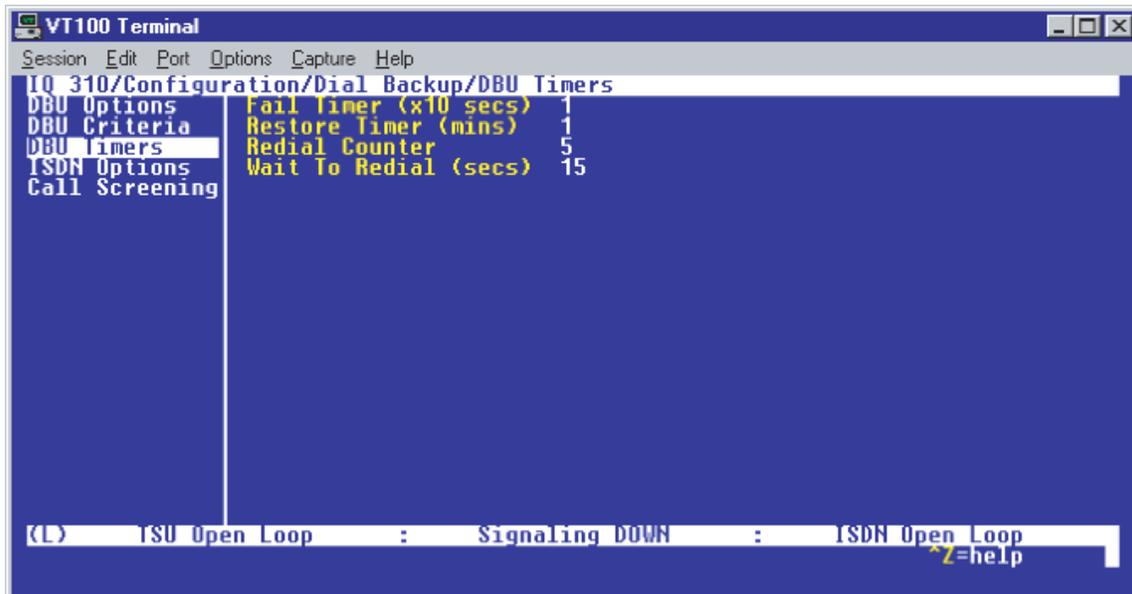
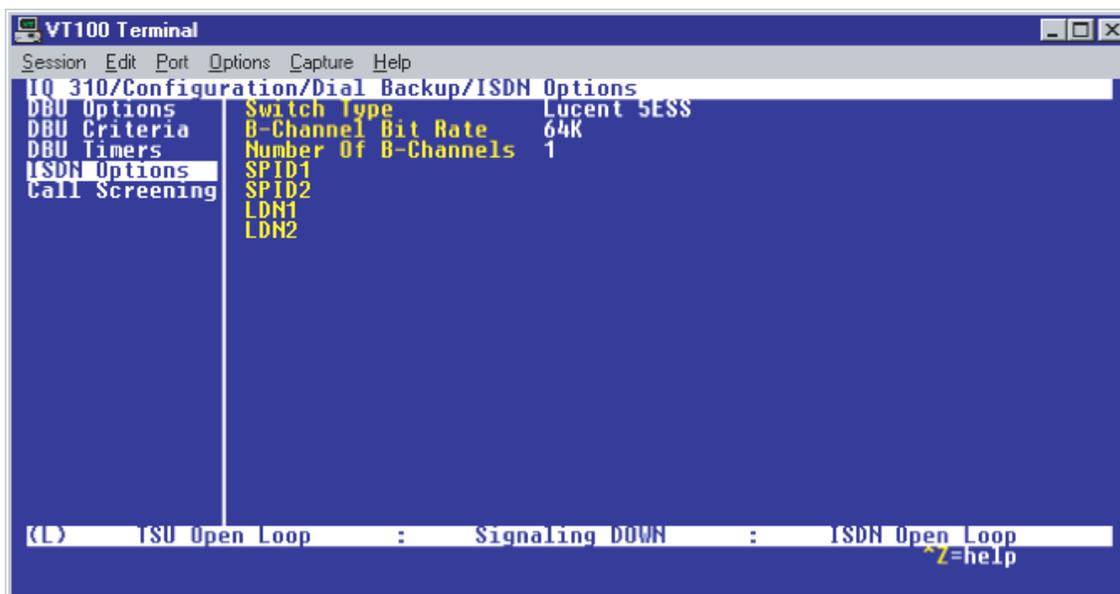

Figure 11. DBU Timers Menu
Figure 12. ISDN Options Menu
1. Press the left arrow key once and the down arrow key once to select **DBU TIMERS**. The **DBU TIMERS** screen shown in Figure 11 is displayed. The default parameter values are shown below.
1. From the screen shown in Figure 11, press the down arrow to select **ISDN OPTIONS**. The screen shown in Figure 12 is now displayed. The default values for the parameters on this menu are shown.